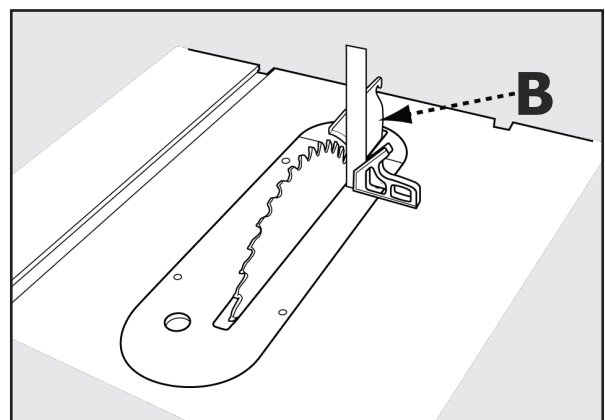

FIGURE 24b
3. Using a carpenter's square, check the angle of the blade face to the table, as shown in Figure 24b, page 20. If the blade is at 90° to the table, proceed to Step 6.
4. If the blade is not perpendicular to the table, turn handwheel to slightly tilt the blade away from the stop position then adjust the 90° stop by rotating the socket set screw located in the table top immediately in front of the left side of throat plate (A). Re-check angle using the carpenter's square and continue to adjust until the blade is at 90 degrees when returned to the stop position.
5. Rotate the blade tilt wheel counterclockwise until it rests on the 45° stop. Then repeat Steps 4 and 5, adjusting the 45° stop by rotating the socket set screw located in front of the right side of the throat plate. (B)
1. Vertical Alignment: Place a carpenter's square on the table and against the blade face and make sure it extends up along the riving knife (B) as shown in figure 24b. The riving knife and blade should touch the carpenter's square with no gaps. Be sure the straight edge goes between the teeth and rests on the blade face and the riving knife for proper alignment. If the riving knife and blade are out of horizontal or vertical alignment, refer to riving knife alignment instructions on page 30 of this manual.